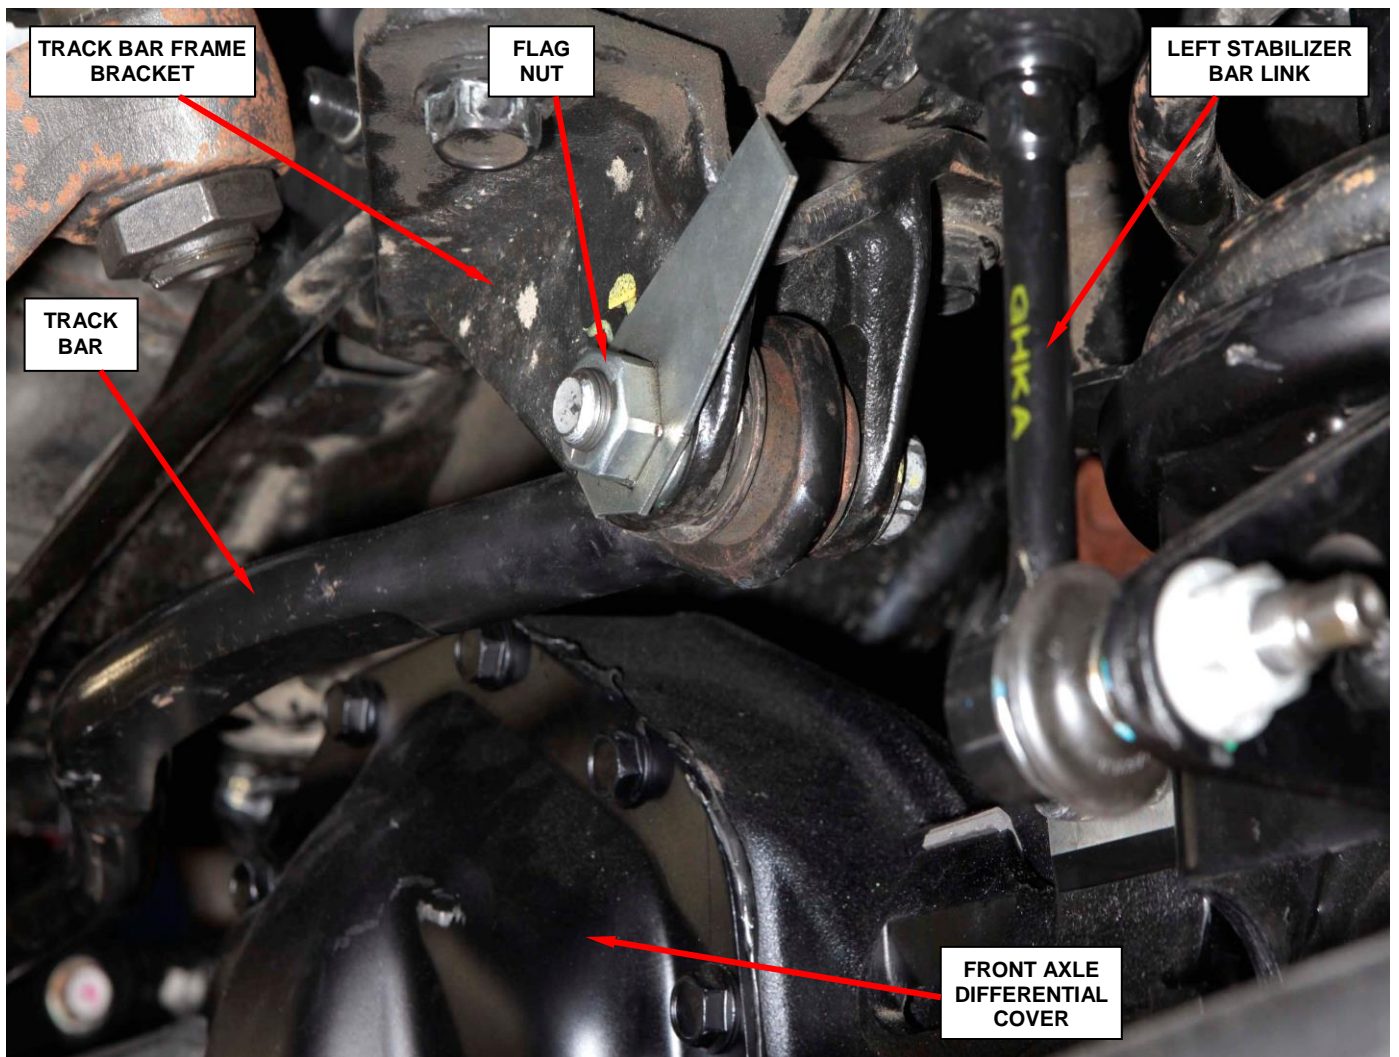

Figure 25 – Reverse the Installation Direction of the Bolt and Nut
6. Remove the track bar-to-frame bolt and reinstall it in the opposite direction (Figure 25). Tighten the track bar-to-frame bolt to 273 ft. lbs. (370 N·m).